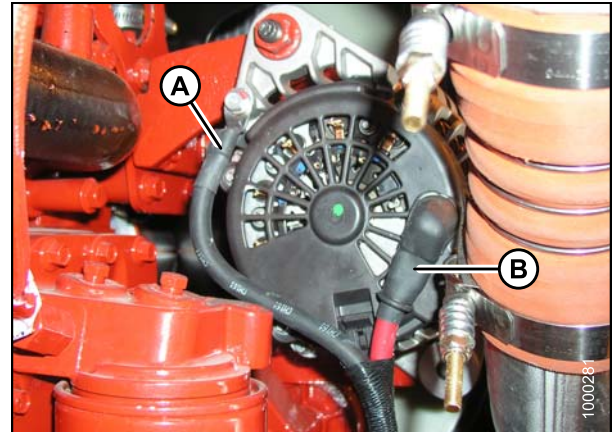

Figure 5.111: Alternator
- If wires are disconnected from the alternator, refer to Figure 5.111: Alternator, page 371 to ensure proper connections.